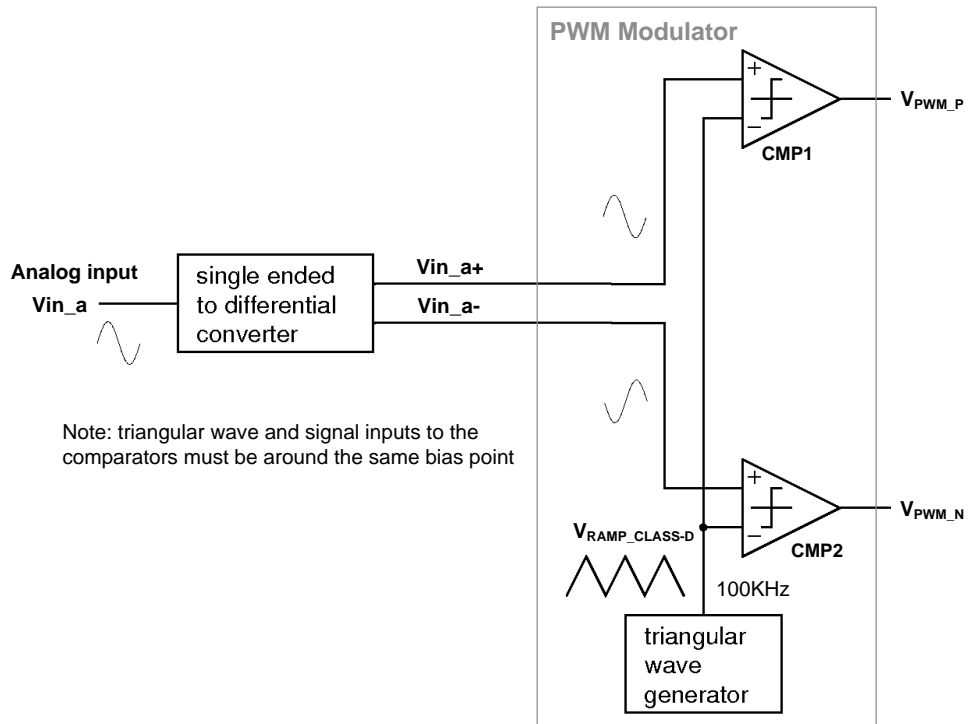
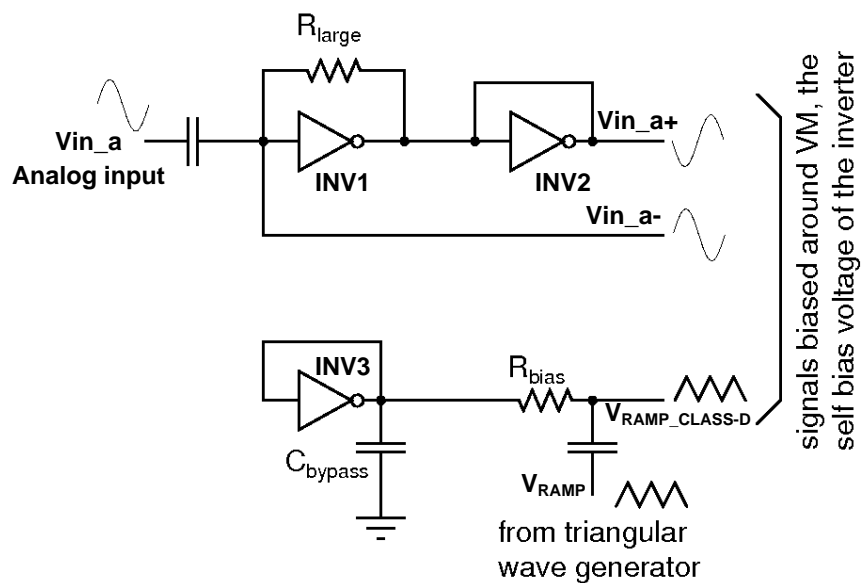

Figure 3-1 Block diagram of single ended-to-differential converter and PWM modulator
Figure 3-2 Circuit diagram of single ended-to-differential converter
3. Build the complete circuit shown in Figure 3-1 and Figure 3-2 in LTSpice. Verify the functionality by simulation with measurements 1-6.
1. Build the complete circuit shown in Figure 3-1 and Figure 3-2 in LTSpice. Verify the functionality by simulation with measurements 1-7. Use speaker model from Figure 3-5 as load and plot current through inductor. Inductor current should be average of differential output voltage ($V_{OUT_P}-V_{OUT_N}$) divided by R_L .